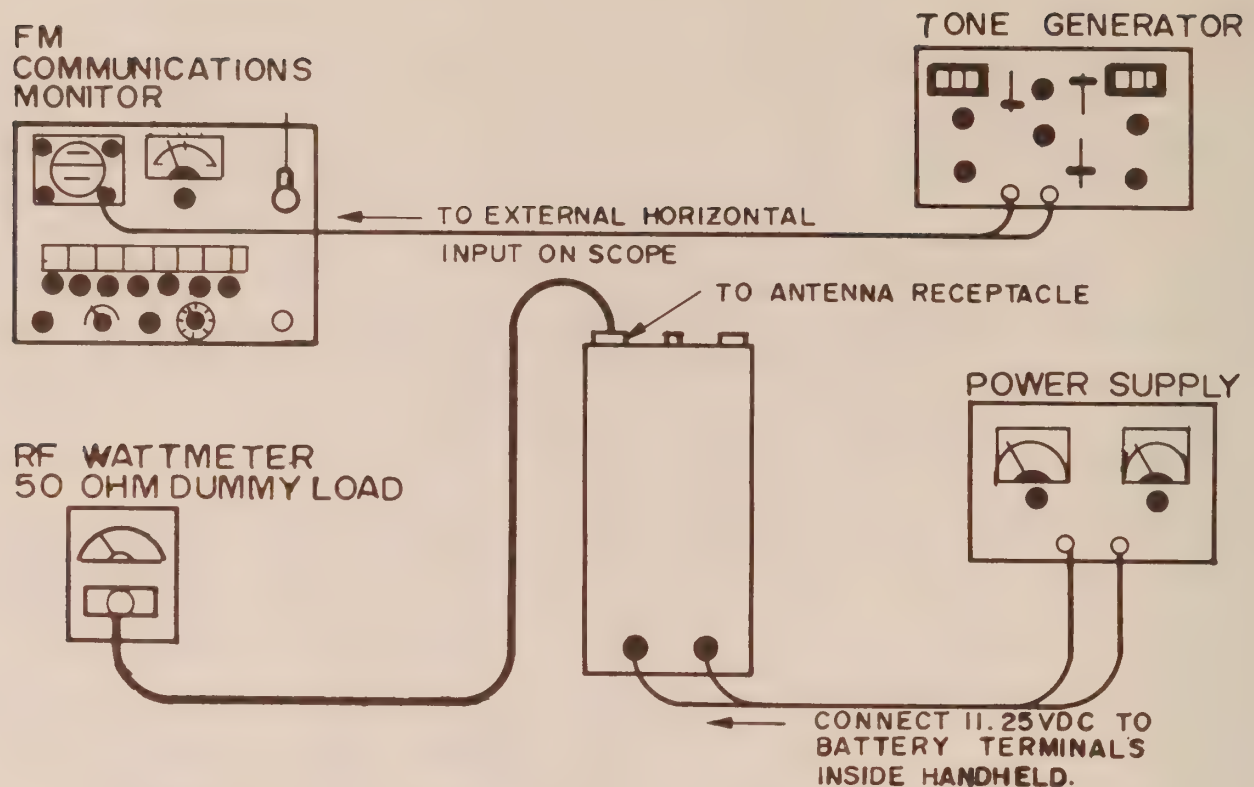

FIGURE 6. 734LC TONE BOARD TX SET-UP
1. Connect test equipment as shown in Figure 6.